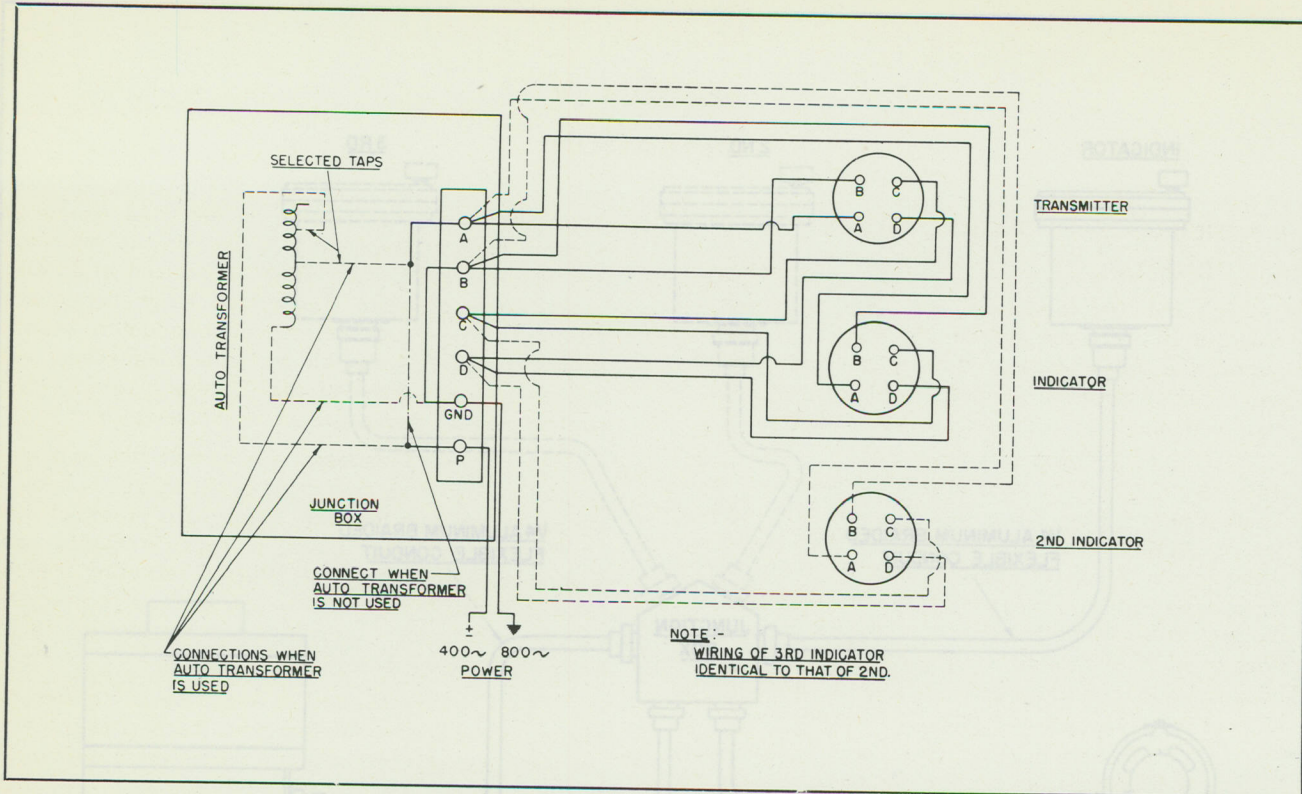

Figure 9—External Wiring Diagram—Army Installation
(3) Both the indicator and transmitter have a 4-terminal receptacle; the leads connecting these units are carried in flexible shielded cables. The input leads must be No. 18 stranded wire. The other connecting leads must be no smaller than No. 22 stranded wire. Wire connections must be made as shown in the external wiring diagram. (See figures 9 and 10.) A suitable junction box with the proper number of outlets should be provided. Where a source of power of 26 volts at 400 cycles, or of 52 volts at 800 cycles is not available, an auto transformer must be inserted in the junction box to transform the voltage available to the required voltage, provided that the frequency available is either 400 cycles \pm 10 percent or 800 cycles \pm 10 percent. Inverter, Pioneer type 12117-2-A, may be used as a source of power. (See figures 8, 9, and 10.)